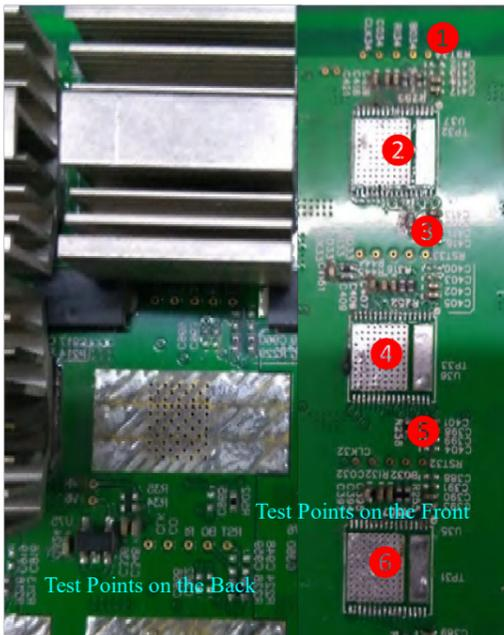

Fig 2. Test Points among Chips
① Test Points among Chips (after amplification as Fig 2):
Fig 1 shows: RX signal transmits by the direction of 2-4-6, TX(CO) signal transmits by the direction of 6-4-2; when the RX voltage of test point 1 in Fig 2 is normal, and RX of test point 3 has no voltage or low voltage, it shows that chip 2 is poor; and when CO voltage of test point 5 in Fig 2 is normal, and CO of test point 3 has no voltage or low voltage, it shows that chip 4 is poor.